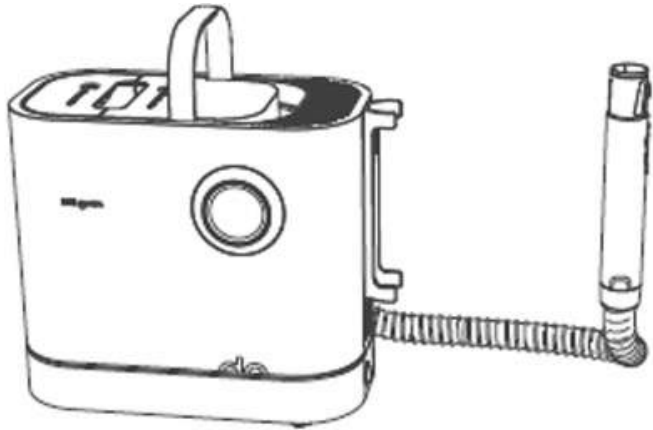

Fig. 3
1. Before using, move the machine to the working table by the handle. Remove the handle of the brush and remove the hose from the cord winding rack (see Fig.3).